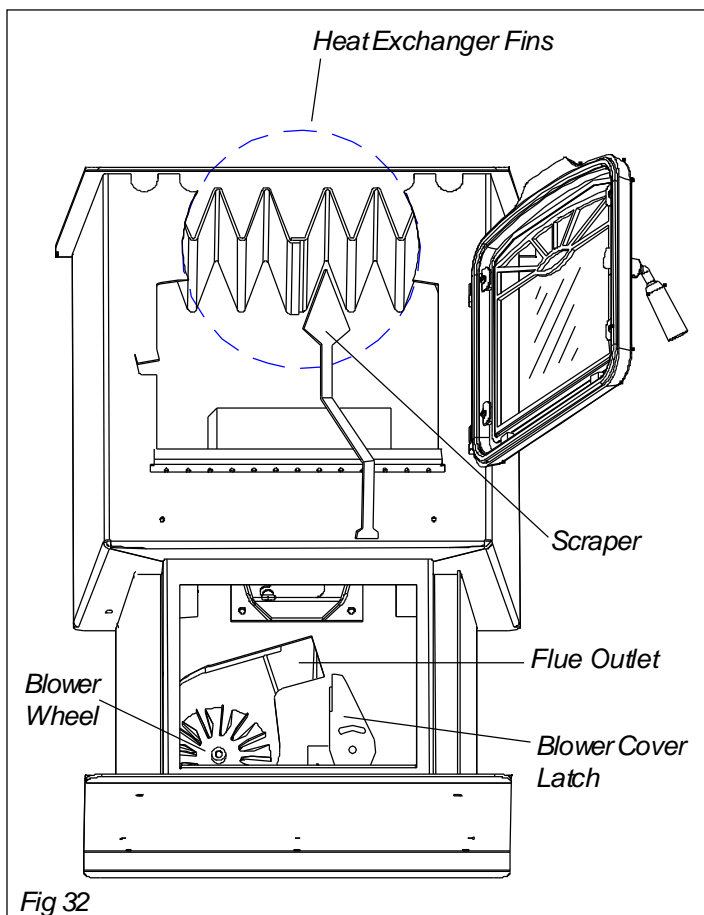
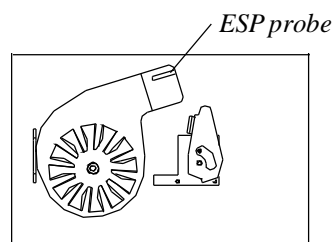

Fig 32
Fig. 35: Exposed blower wheel and flue opening, NOTE: ESP probe is visible.
2. Clean the heat exchanger with the scraper as shown in Fig. 32.
6. Remove the combustion blower cover by turning the blower cover latch vertical as shown in fig. 32. Slide the cover out of the slot on the left. This will expose the combustion blower wheel and flue outlet, fig. 35.